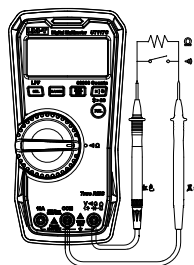

Figure 6
- 4) In ACV position, long press SEL to enable LPF function. Composite sinusoidal signal generated by inverter or variable-frequency motor can be measured through the LPF function, as shown in Figure 6 below. Long press SELECT again to exit LPF function.
4. Continuity measurement (Figure 6)
5. Resistance measurement (Figure 6)